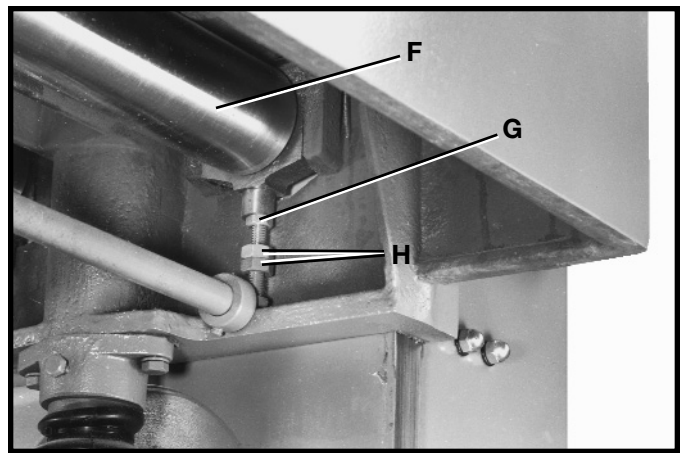

Fig. 26
- If an adjustment to the outfeed table roller is necessary, loosen locknut (G) Fig. 26, which is located under the table and below the outfeed table roller (F), and rotate adjustment nuts (H) as necessary, to raise or lower the height of the outfeed roller (F). **NOTE:** It will be necessary to raise the table to gain access to the adjustment nuts. Tighten locknut (G) Fig. 26, after the adjustment is made.